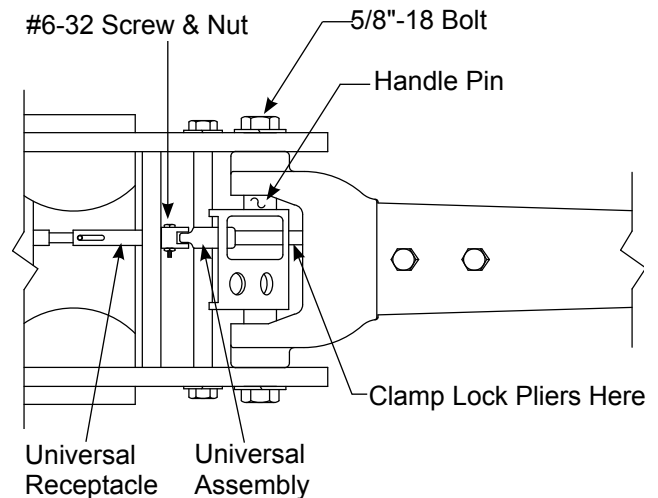

Figure 2- Assembly Illustration for HW93660 & HW93662
1. (Ref. Fig. 2) Remove the 5/8-18 bolts and the handle pin from the jack base that connects through the handle fork.